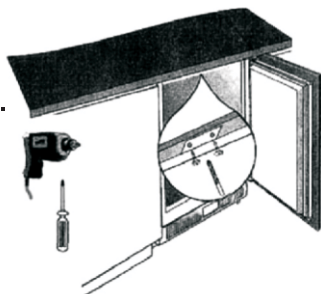

Figure 6
4. Fasten the appliance to the worktop or at the sides to the adjacent units, using the upper or side fixing holes provided for this purpose (Figure 6).